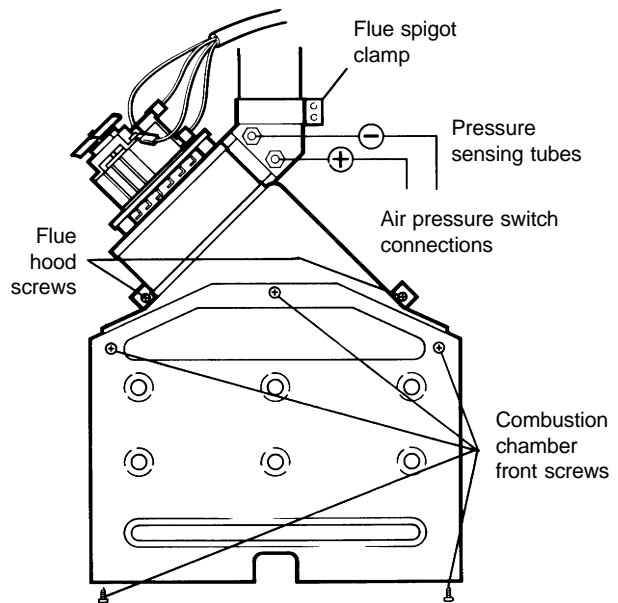

Fig. 21
8.9 FAN - Fig. 21
Alpha 240XP - Connect the fan wiring, blue to terminal 'MIN', brown to terminal 'MAX' and black to terminal 'COM'. Ensure the pressure tubes are connected correctly (see Fig. 21). (- and + marked on the fan outlet), and that the bottom of the combustion chamber cover is located in the burner.